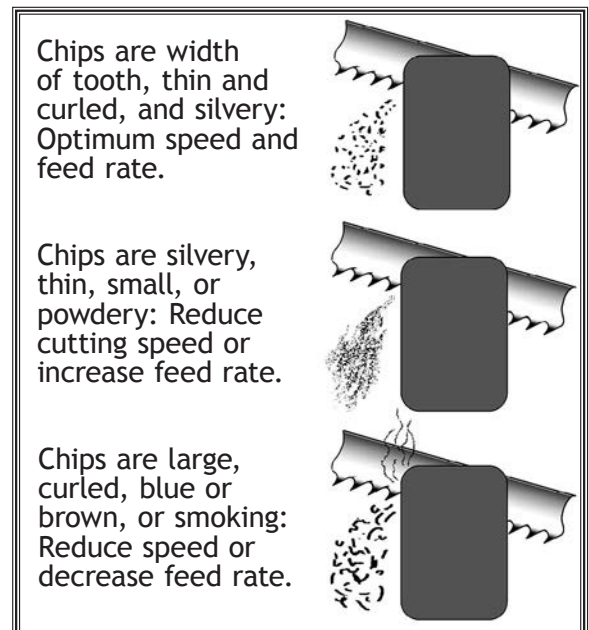

Figure 43. Reading chip characteristics.
7. Observe the chips that exit the cut, and increase or decrease the feed rate according to the chip characteristics (see **Figure 43**).